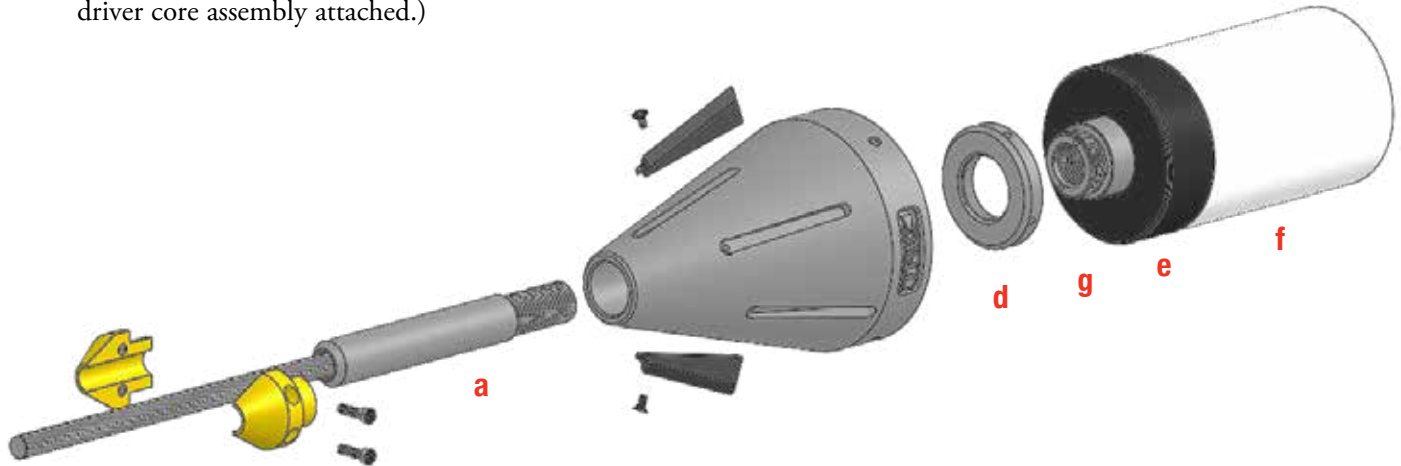
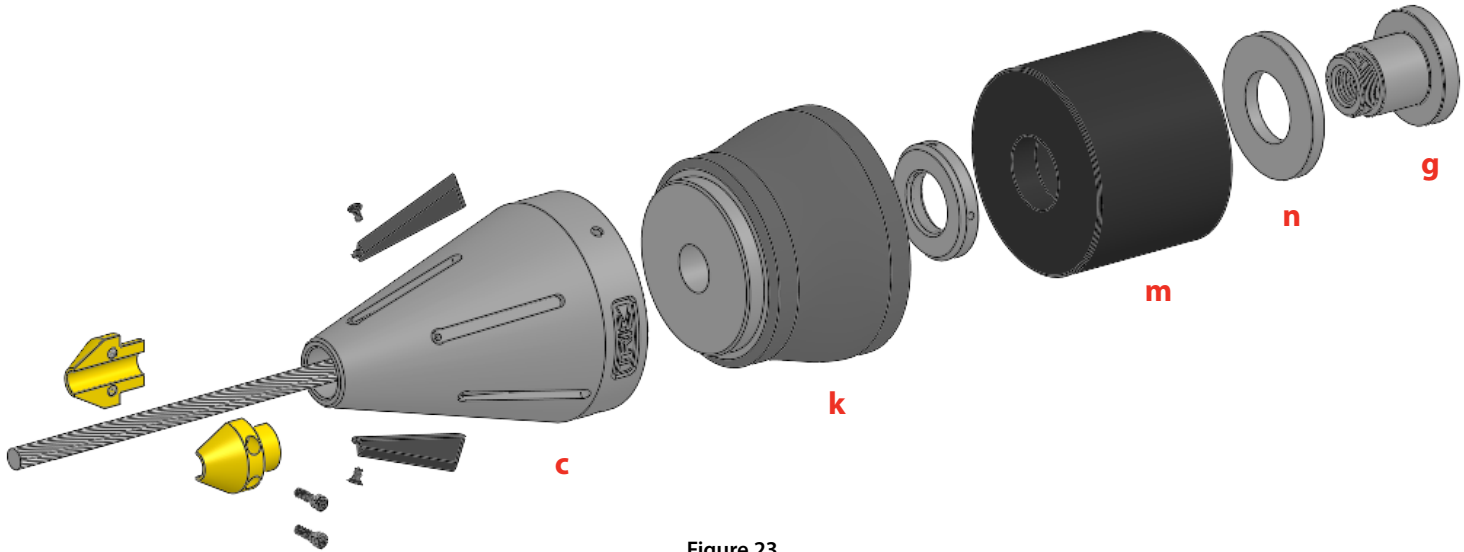

Figure 20
Figure 23
Before assembly, test cable stud (a) with driver core (g), and make sure that threads are intact, clean, and greased so that the parts screw together easily. If the PE cap (e) is new, fuse a short piece of HDPE pipe (f) onto PE cap before inserting the driver core to the PE cap as shown below in Figure 20. (The PE cap is too short to fuse onto pipe with the driver core assembly attached.)
TRIC 6" and 8" bursting head assemblies can be adapted to burst larger sizes of pipe. In Figure 23 below, the standard 8" bursting head (c) is followed by a 10" adapter skirt (k) and IPS 10" PE cap (m) which is 10.75" or 273mm outside diameter (OD). A PE cap washer (n) is used with the driver core (g) for pipe diameters larger than 8" IPS (OD 8.625" or 219mm).
Assemble driver core to PE cap and cable as shown in Figures 20 and 21, including all parts shown in Figure 23 at left, so that bursting head (c) and expander skirt (k) are back against driver core and PE cap (m). Then insert bursting head retainer (j) into nose of bursting head and fasten onto cable. This will keep the bursting head and expander assembly together when entering the launch pit.